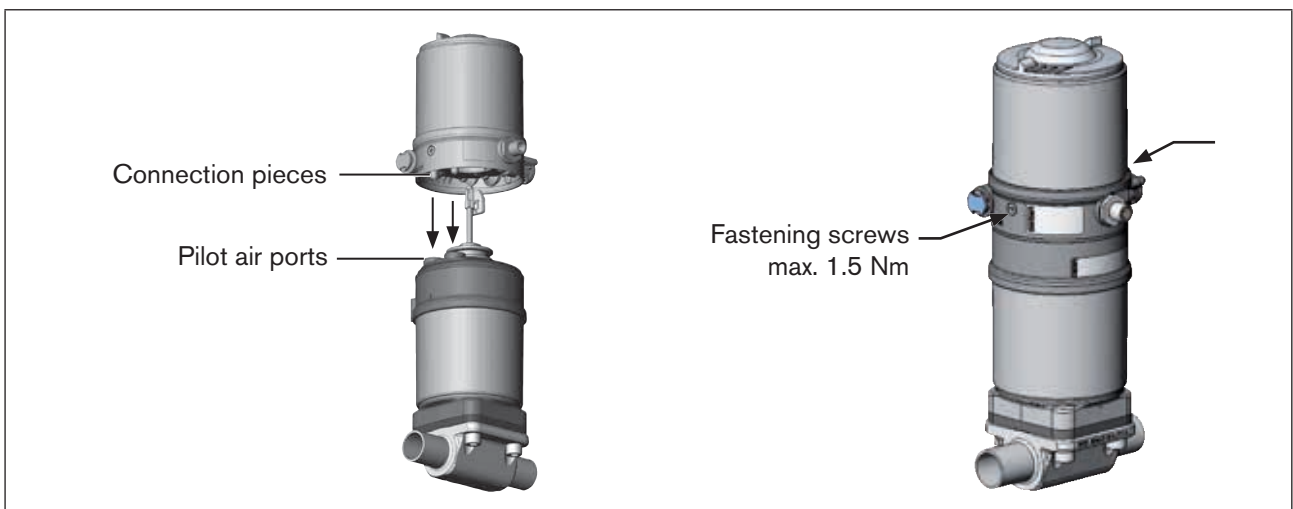

Figure 10: *Installation of control head, series 21xx*
2. the connection pieces of the control head can be inserted into the pilot air ports of the actuator (see "Figure 10").